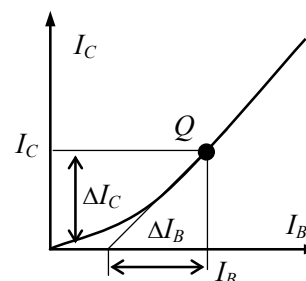

Fig. 1.28
**Transfer characteristic.** Another important feature of the transistor is its *transfer characteristic* that sets the relation of the collector current versus the base current (Fig. 1.28). An *ac current gain*  $\beta_{ac}$  (*ac beta*) may be calculated from this curve in operating point  $Q$  as